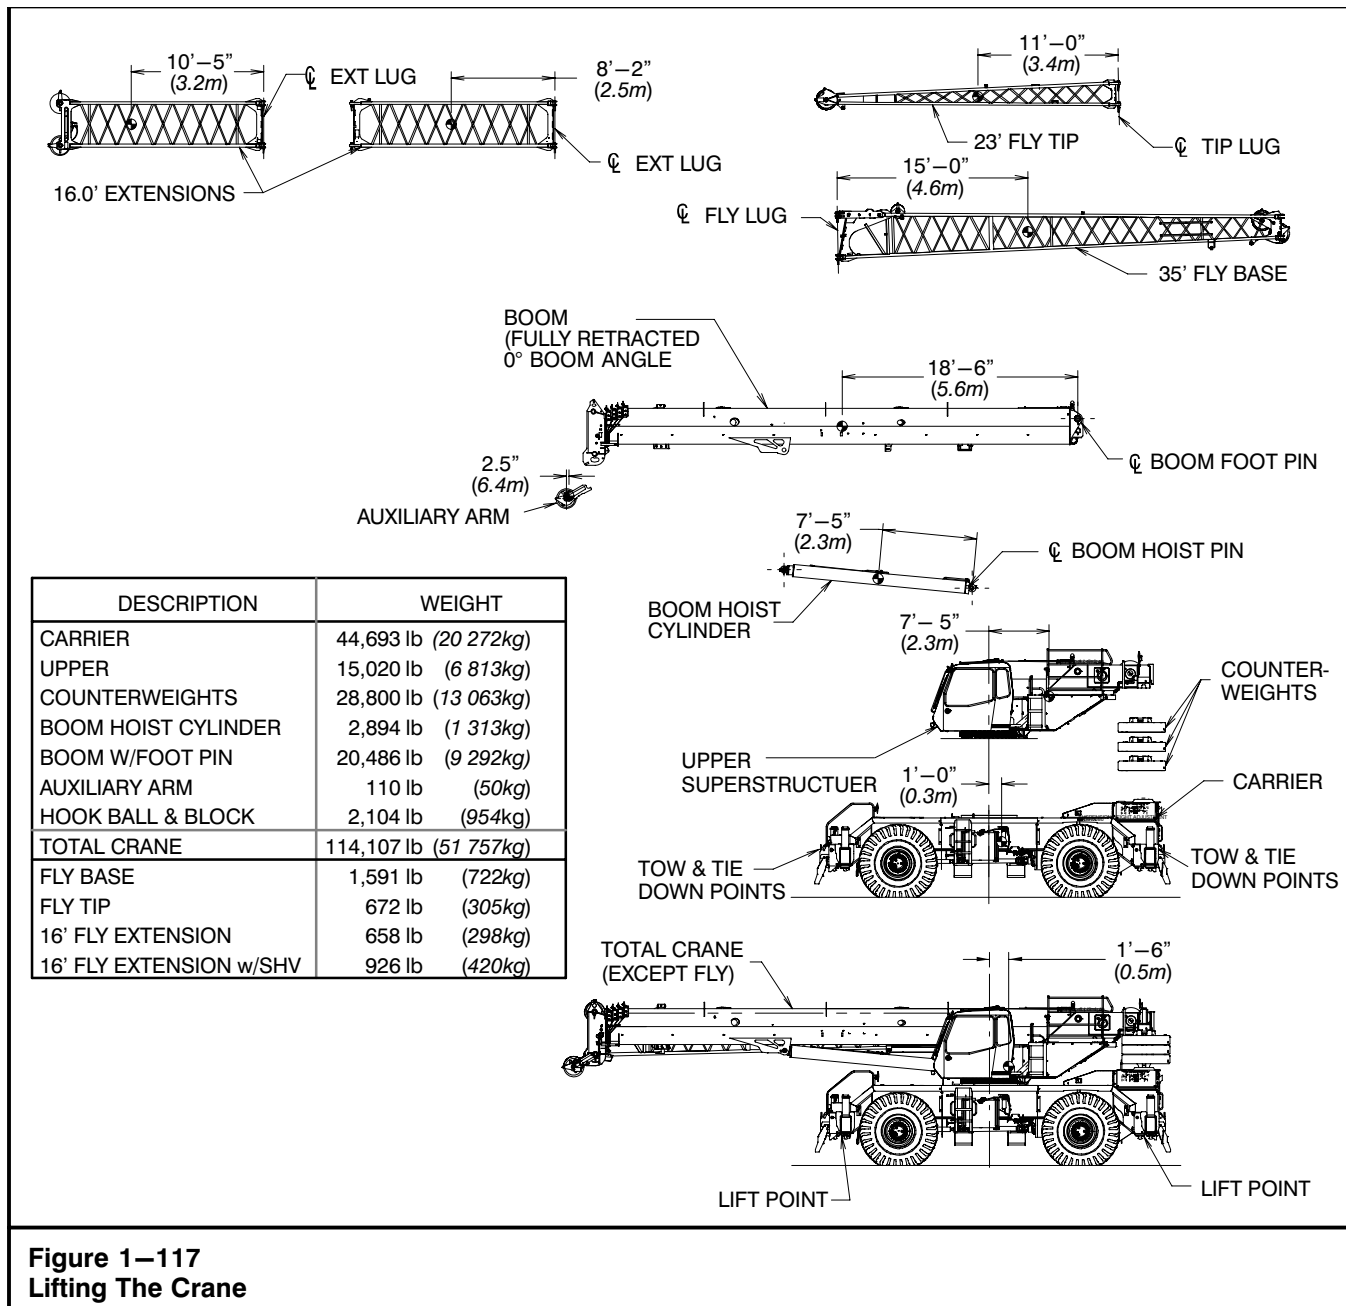

Figure 1-117
The entire crane (except the fly) can be lifted or the components may be removed from the crane and lifted individually. Refer to Figure 1-117 for the center of gravity (CG) and weights for the entire crane and the individual components. The following conditions and precautions must be met before lifting the crane or removing any component.